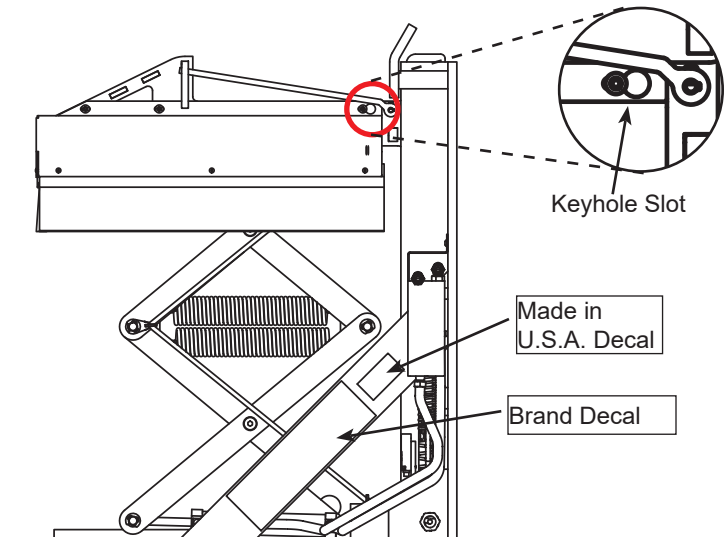

Fig. 10
6. Position the debris guard assembly over the hook, by sliding the keyhole slots over the rear screw, (Fig. 10). With the debris guard keyhole slots over the rear screw, push the debris guard backward to seat the screw in the slot. With the screw in the key slots, tighten the lock nut to secure the debris guard.